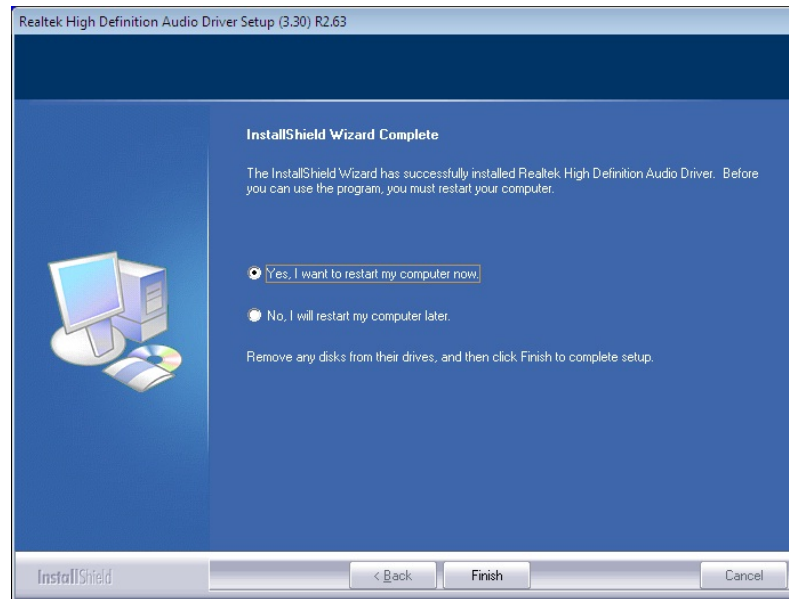

Figure 6-19: Audio Driver Installation Complete
Step 10: When the driver installation is complete, the screen in **Figure 6-19** appears.